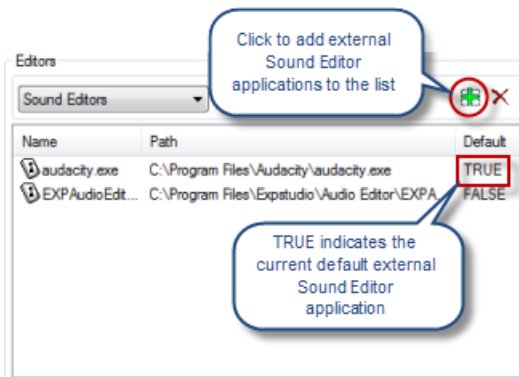

FIG. 432 Preferences Dialog (Editor Selection tab) - Sound Editors list
5. Click **OK** in the *Choose Editor* dialog to add the selected program to the Editors list (FIG. 432):